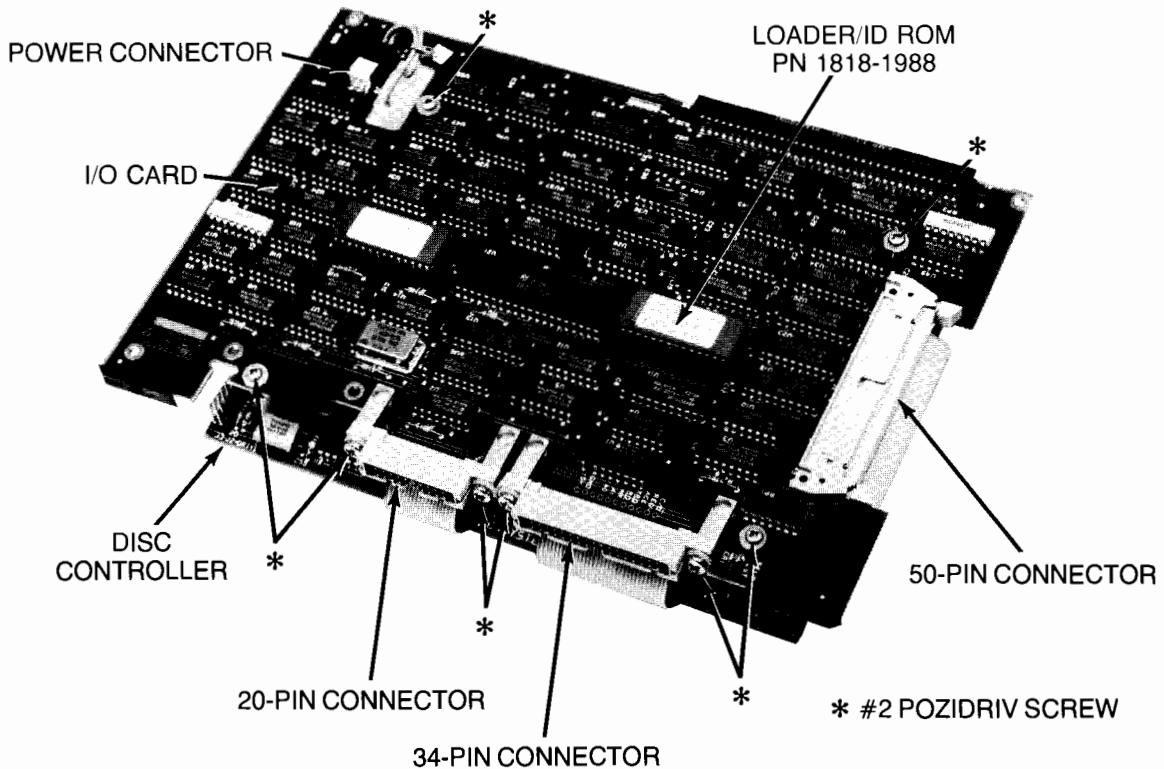

Figure 4-15. Disassembling Fixed Disc Drive Controller Assembly, View 1
1. Disconnect power connector from I/O card (Figure 4-15).
2. Disconnect 50-pin connector from I/O card (Figure 4-15).
3. Disconnect 20-pin and 34-pin connectors from I/O card by removing the four #2 Pozidriv screws that attach the connectors to the card (Figure 4-15).
4. Remove four #2 Pozidriv screws that attach I/O card to assembly (Figure 4-15), and remove card.